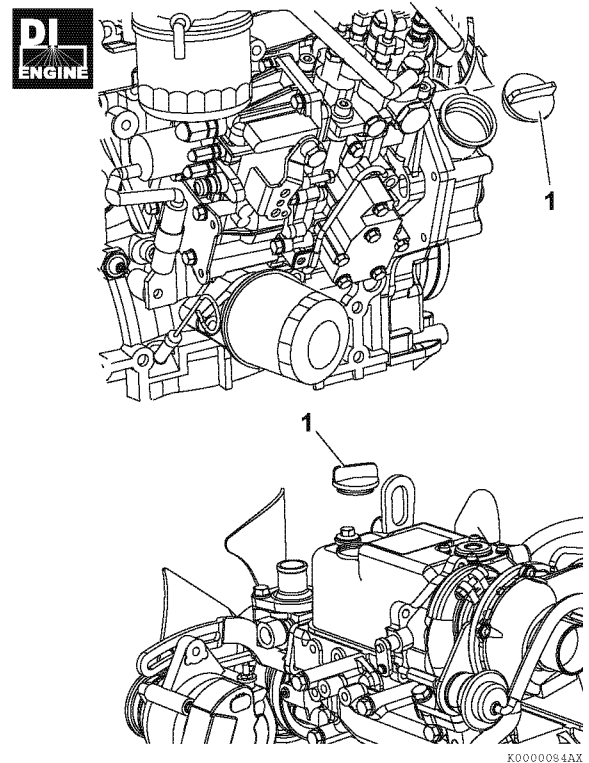

Figure 19
4. Remove one of the oil filler caps (1, **Figure 19**) to vent the engine crankcase and allow the engine oil to drain more easily.